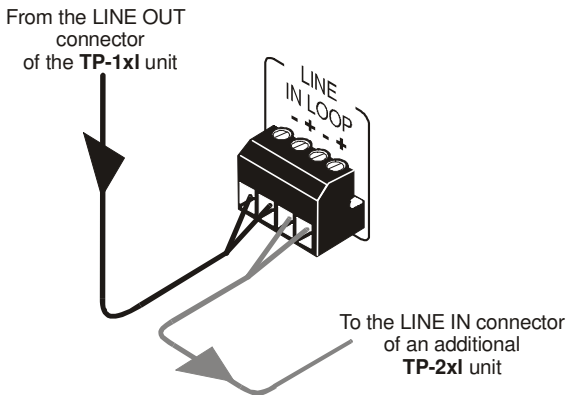

Figure 4: Connecting an Additional TP-2xl Unit
4. If required, connect the LINE LOOP connector³ of the **TP-2xl** to the LINE IN connector² of an additional **TP-2xl** (as illustrated in Figure 4).